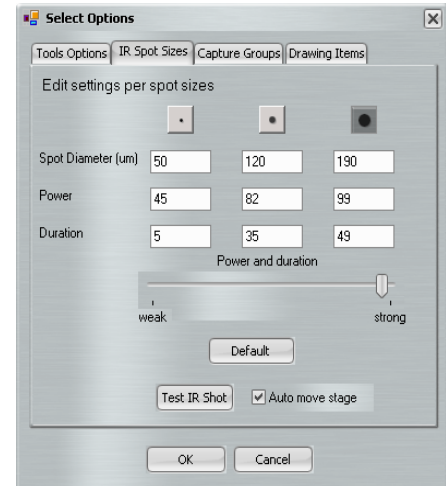

Figure 47 IR Spot Sizes tab
4. Click the button under **Edit settings per spot sizes** for the size of spot (small, medium, or large) for which you want to set the parameters (see Figure 47).